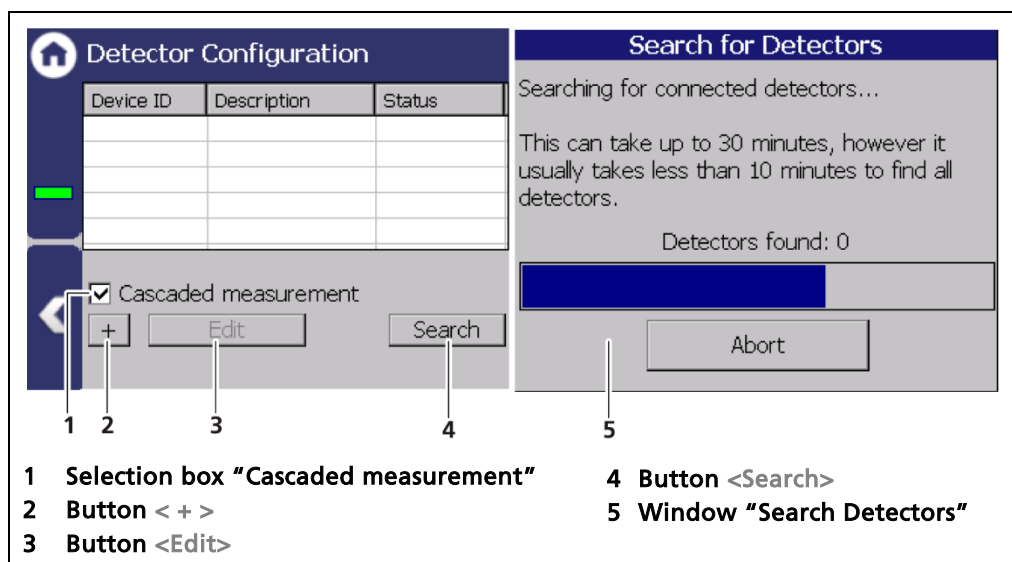

Fig. 59 Example of detector configuration for cascaded measurement
1. Click on the button <Search> (Fig. 59, item 4) on the EVU 2 to incorporate connected detectors.